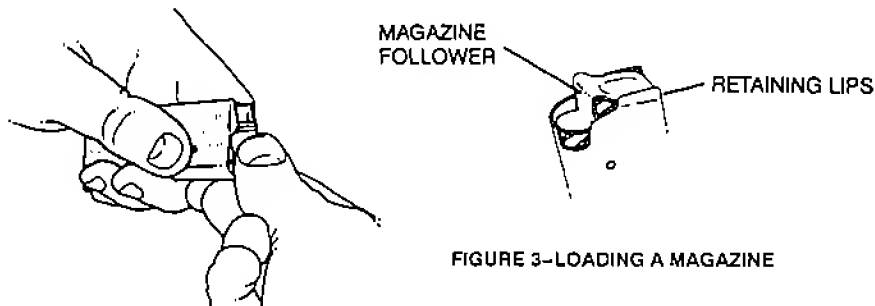

FIGURE 3—LOADING A MAGAZINE
3. With open end uppermost, grasp magazine in one hand. Place a round on magazine follower with base just forward of retaining lips (see Figure 3). Press round down and back until base of round touches rear flat edge of magazine.